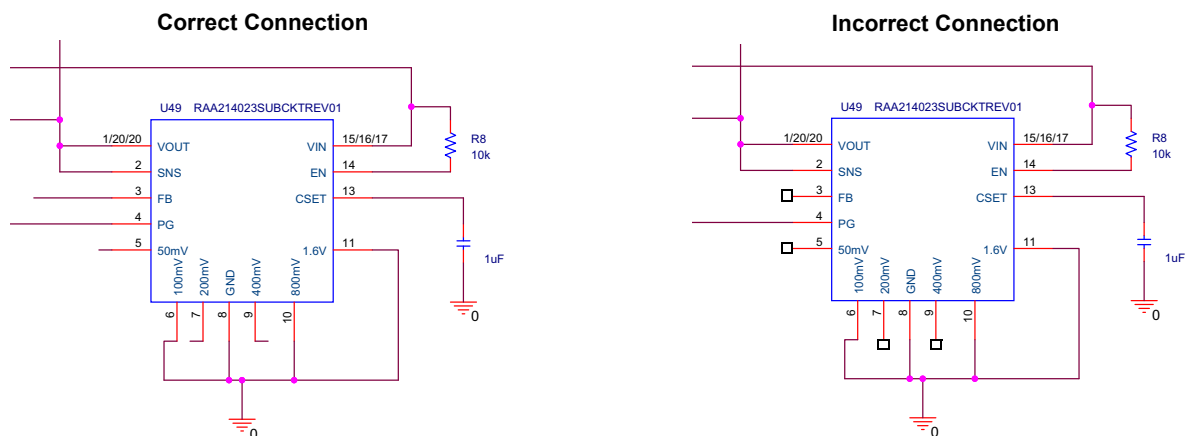

Figure 3. Floating Pins Need to be Connected
**Note:** All pins need to be connected on the SubCKT to avoid errors during net listing. Figure 3 shows the correct and incorrect connection of the RAA214023 output voltage programmed to 3.3V with the internal resistors. Pin 3, Pin 5, Pin 7, and Pin 9 are floating to achieve this. You must connect a wire to the floating pins.